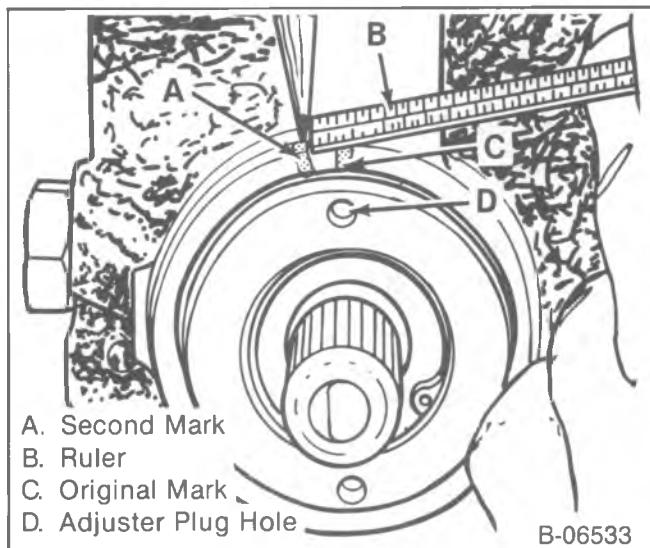

Figure 18—Remarketing the Housing
- Measure back (to the left) 13 mm (1/2-inch) and re-mark the housing (figure 18).